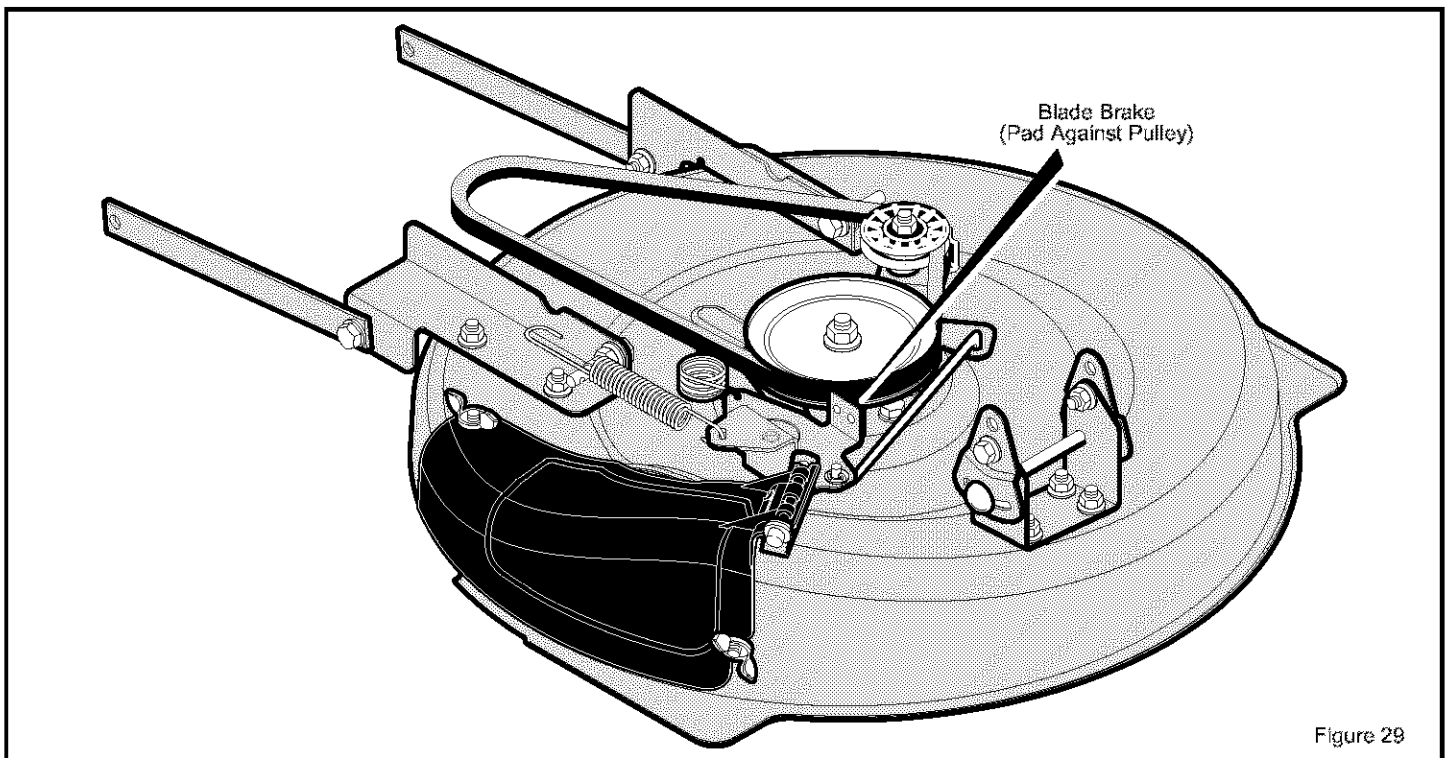

Figure 29
7. Check the operation of the **blade brake**. Rotate the pulley with your hand. Make sure the **brake pad** is pressed tightly against the pulley (Figure 29).